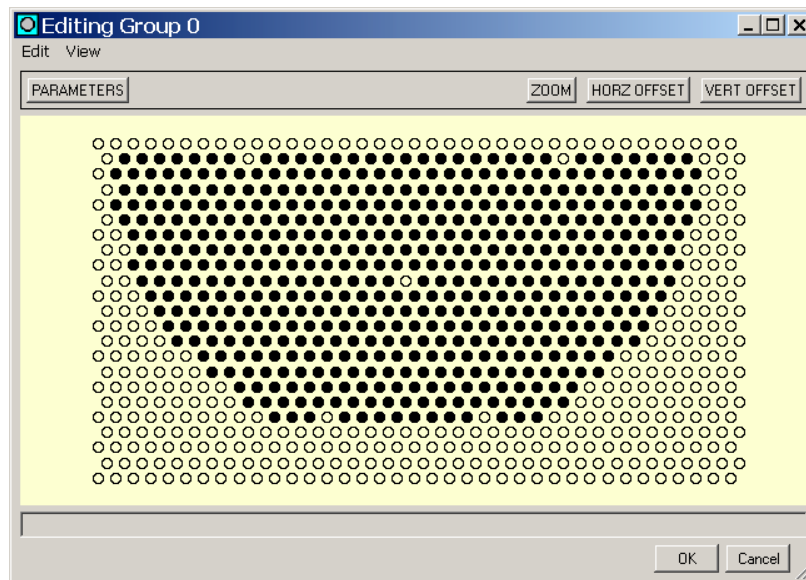

Figure 7-12. Adding Group Dialog - Section 1
- STEP 10:** The **Adding Group** dialog should now look like the one shown in Figure 7-12. Click **OK** on the **Adding Group** dialog. **MakeComp** returns to the main screen and displays only the enabled tubes on the building grid.